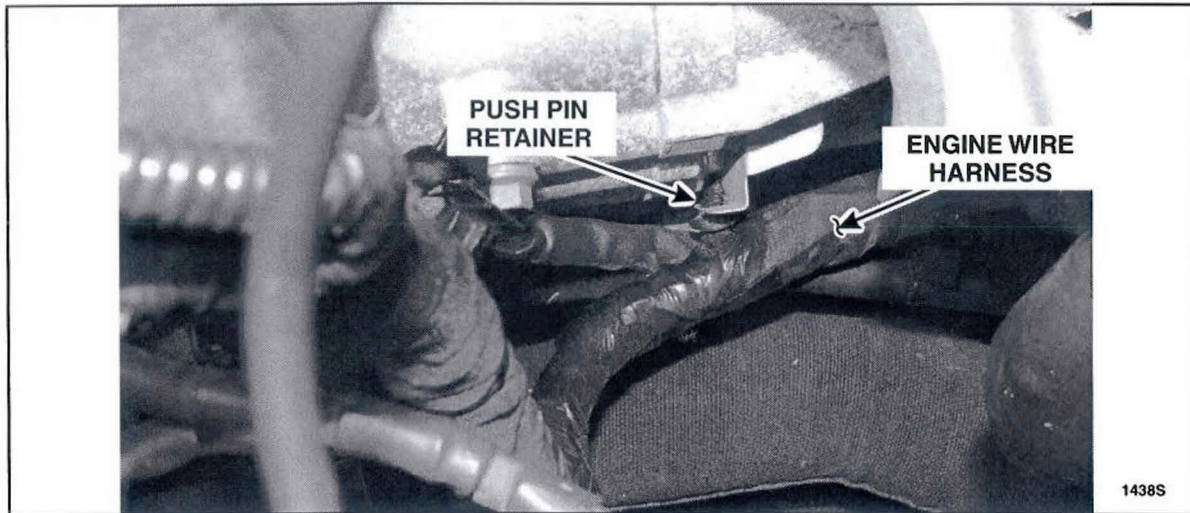

FIGURE 4
7. Detach the engine wire harness push pin retainer from transmission. See Figure 4.